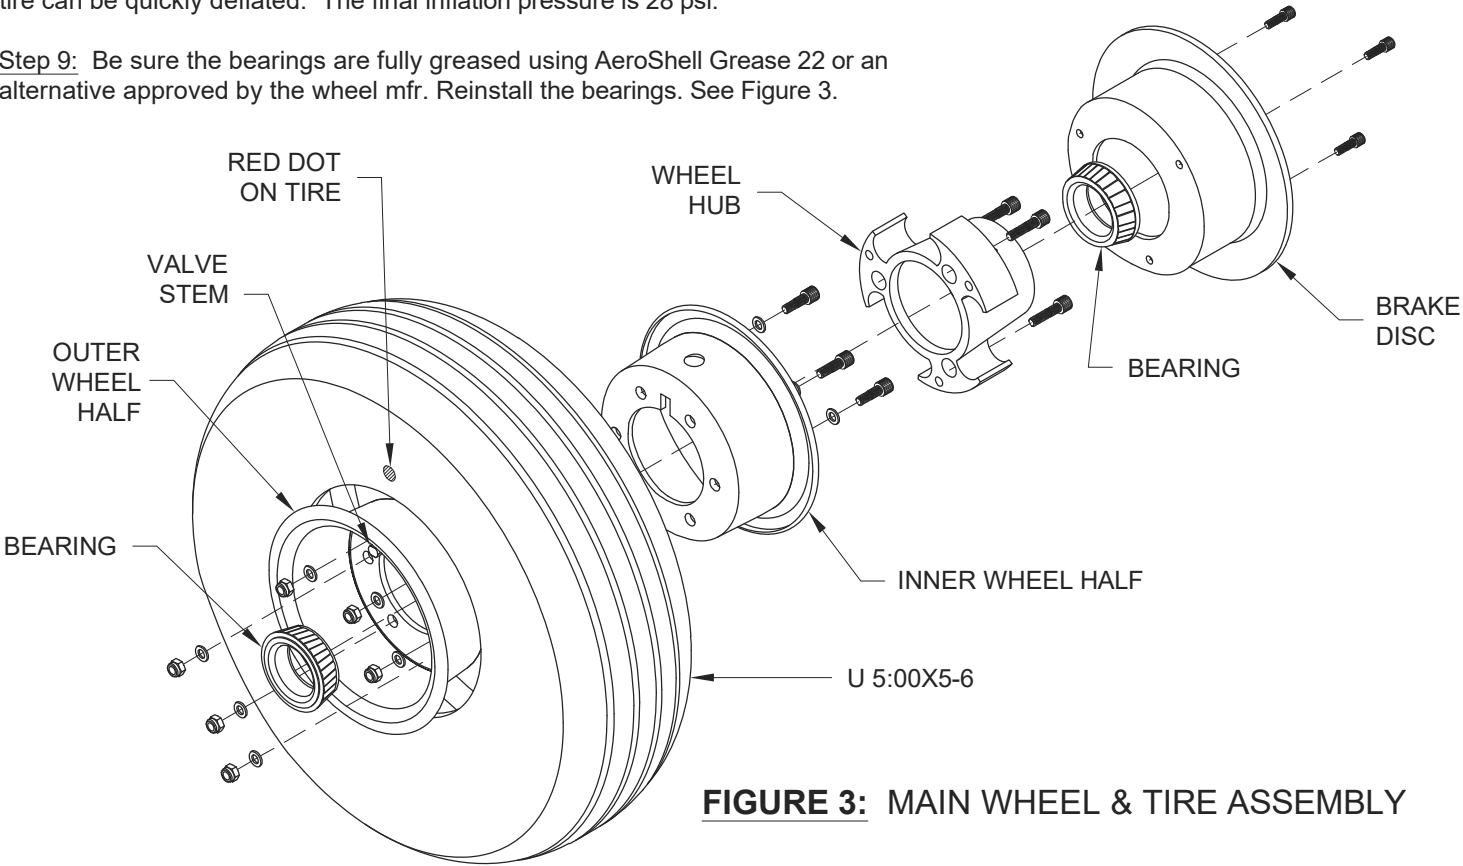

FIGURE 3: MAIN WHEEL & TIRE ASSEMBLY
Step 6: Split the Main Wheel Assembly by removing the cap screws holding the brake disc to the wheel. Remove the bolts holding the inner and outer wheel halves together. Pay close attention to how the bearings and hubs are installed so that they can be reinstalled in the same way. Pull the bearings from the main wheel assembly then clean and dry them. See Figure 3.
Step 7: Remove the nut and washers from the valve stem of the U 5:00X5-6IT Tube (not shown in Figure 3) and discard. Dust the U 5:00X5-6IT Tube and the inside of the U 5:00X5-6 Tire with talcum powder then mount the tube and tire on the inner and outer wheel halves. The red dot on the tire is installed next to the valve stem of the tube (see Figure 3). Bolt the wheel halves together taking care not to pinch the tube between the wheel halves. Carefully observe the manufacturer's bolt torque specifications shown on the document in the wheel/ brake package. Attach the brake disc with the cap screws.
Step 9: Be sure the bearings are fully greased using AeroShell Grease 22 or an alternative approved by the wheel mfr. Reinstall the bearings. See Figure 3.